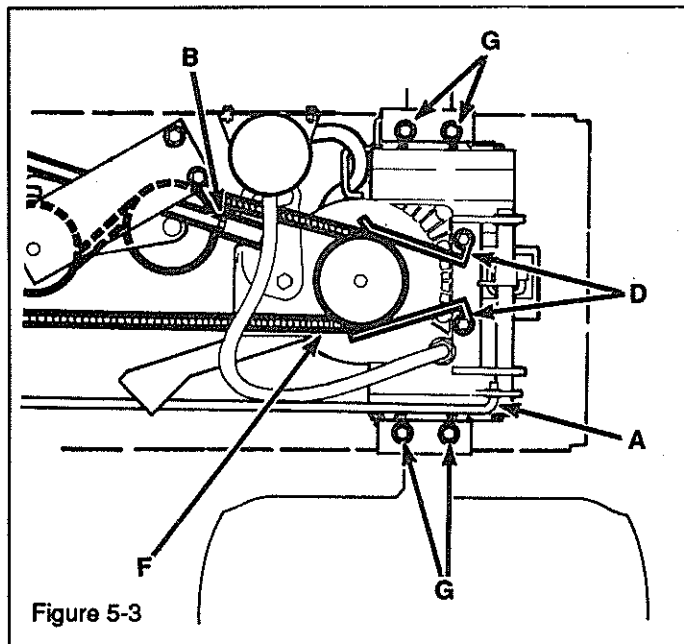
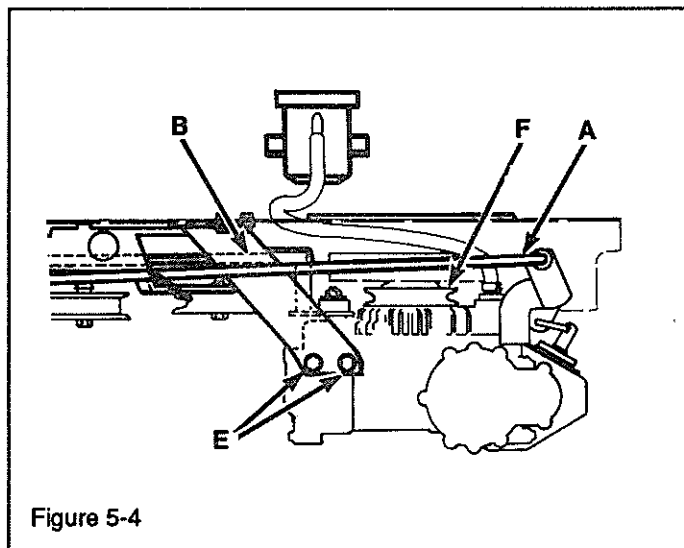
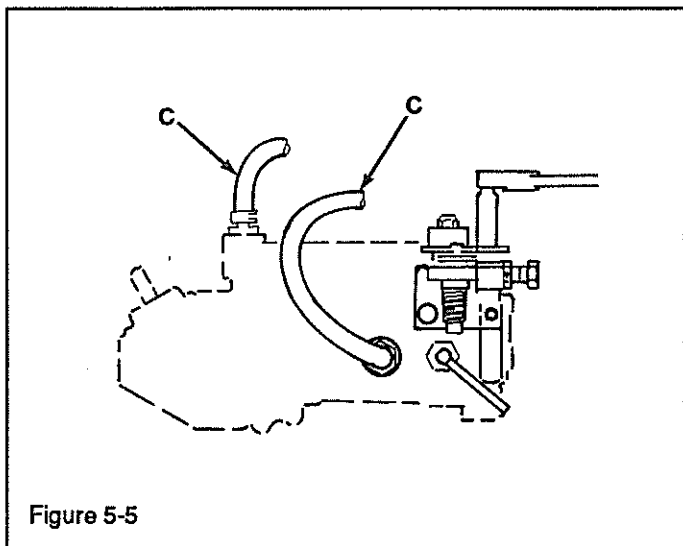

Figure 5-3
Figure 5-4
Figure 5-5
- a. Disconnect brake rod (A) at rear. Figure 5-3 and 5-4.
- b. Disconnect hydrostatic control rod (B) from pivot arm.
- c. Disconnect hydrostatic fluid hoses (C, Figure 5-5) from hydro. **Oil may flow from hoses.**
- d. Loosen the two belt guides (D, Figure 5-3).
- e. Remove the 2 mounting bolts (E, Figure 5-4) securing the bracket on the L.H. side.
- g. Remove the drive belt from the hydrostatic drive sheave (F, Figure 5-3 and 5-4). On later models, route around plastic cooling fans.
- i. Remove the 4 axle mounting bolts and nuts (G, Figure 5-3).
- b. Raise frame and roll transaxle into position under frame. Make sure brake rod (A, Figure 5-3 & 5-4) is above the hydrostatic transaxle.
- c. Secure axles to frame using the 4 bolts and nuts (G, Figure 5-3) removed earlier.
- d. Install drive belt (F), routing around fan fins and over transaxle sheave.
- e. Secure L. H. support bracket to transaxle using the two 5/16-18 x 1/2 flange screws (E, Figure 5-4) removed earlier.
- f. Re-tighten belt guides (D, Figure 5-3), if loose, so that there is a gap of about 1/16 inches between the guide and belt.
- g. Connect the two fluid hoses (C, Figure 5-5) to the hydro. (Oil may have to be replenished.)
- h. Re-install hydrostatic control rod (B, Figure 5-3).
- i. Re-install brake rod (A).